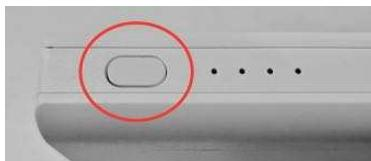

Figure 20.1. The power button on the RAVPower Battery.
**Resolution:** Press the button on the side of the battery (Figure 20.1).